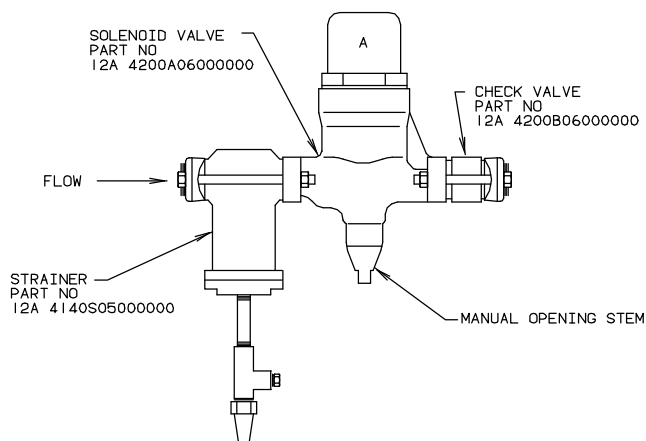

FIGURE 9-8
The Liquid Feed Solenoid Valve (20), Figure 9-8, is opened and closed during the freezer cycle by the float switch #10, in order to maintain the proper freezer refrigerant level. It is closed when the machine is off to prevent liquid flow from the receiver to the freezer.